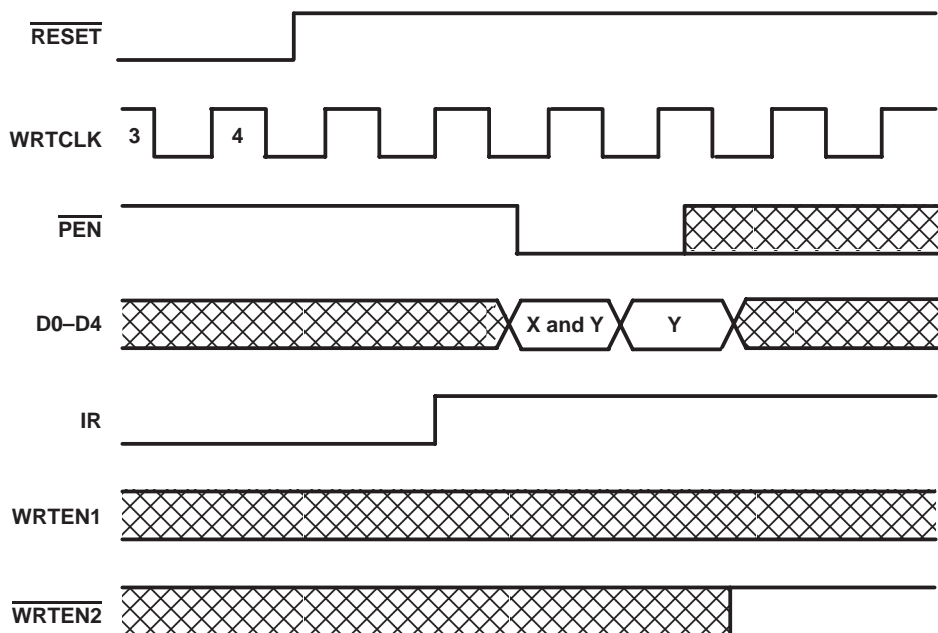

Figure 4. Programming X and Y Separately
Program enable (\overline{PEN}) should be held high throughout the reset cycle. \overline{PEN} can be brought low only when IR is high and WRTCLK is low. On the following low-to-high transition of WRTCLK, the binary value on D0–D4 is stored as the AE offset value (X) and the AF offset value (Y). Holding \overline{PEN} low for another low-to-high transition of WRTCLK reprograms Y to the binary value on D0–D4 at the time of the second WRTCLK low-to-high transition. When the offsets are being programmed, writes to the FIFO memory are disabled regardless of the state of the write enables (WRTEN1, WRTEN2). A maximum value of 31 can be programmed for either X or Y (see Figure 4). To use the default values of X = Y = 8, \overline{PEN} must be held high.